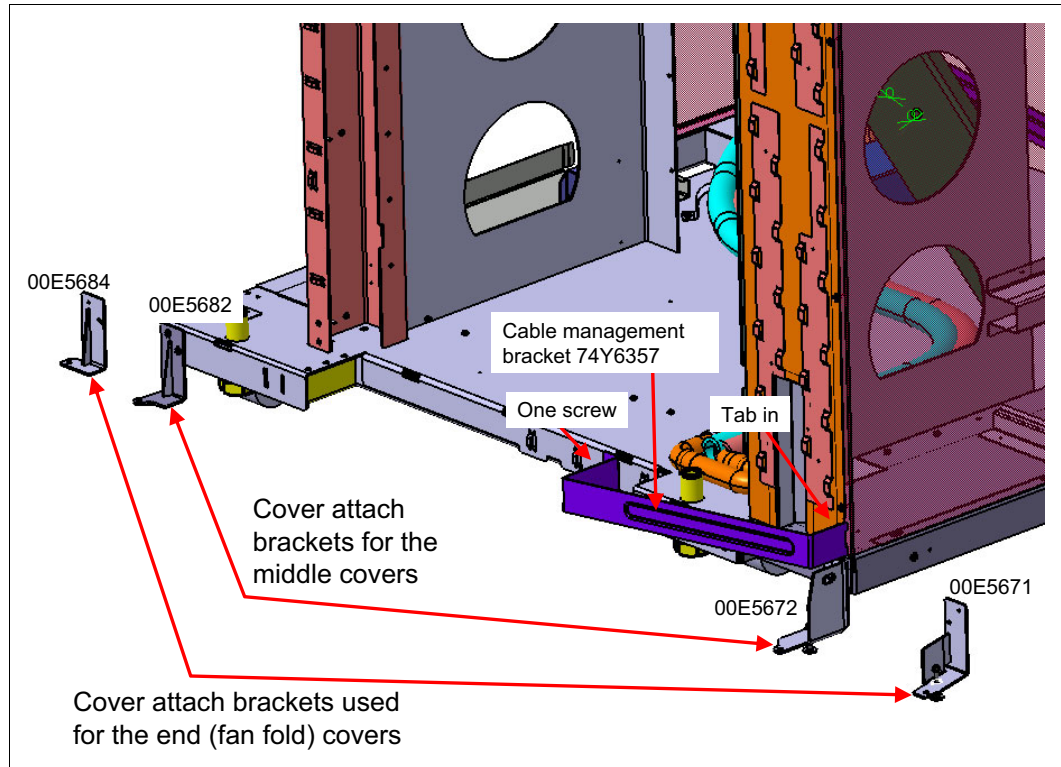

Figure 1-44 Cover end bracket installation
2. Install the cover attach (hinge) brackets and the cable management bracket with screws (part number 97P5047). See Figure 1-44.